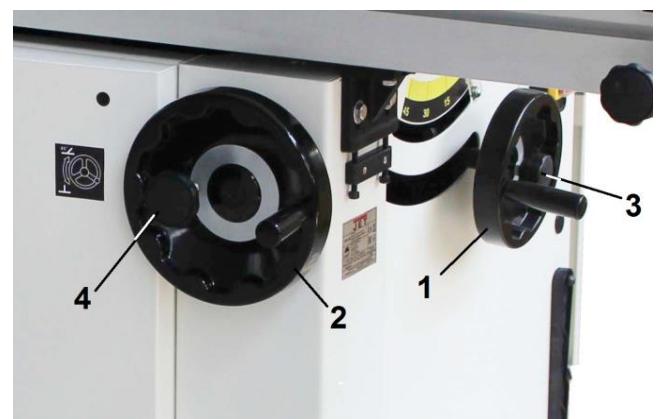

Fig 11
Fitting the elevation handwheel (1 Fig 11) and angle handwheel (2) onto the elevation and angle shaft.